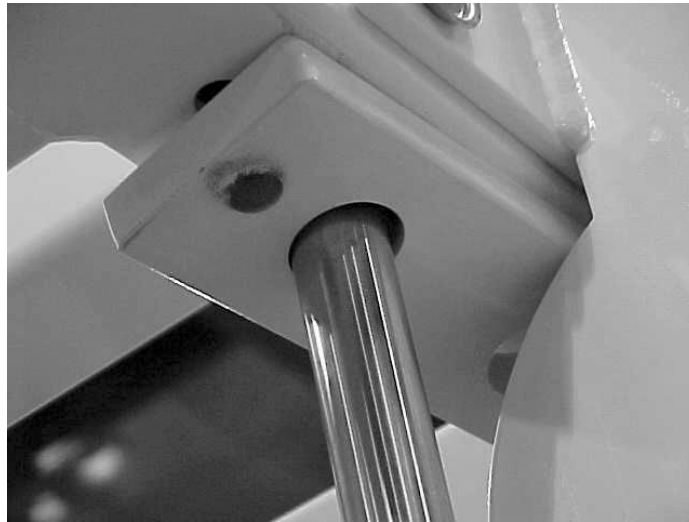

Figure 11. Bolt on the top plate.
- F. **Bolt on the top plate to the top of the cells** with the top plate on the guide rods as shown in Figure 11 using a 9/16" socket and combination wrench and the 3" (with cap washers) that were previously inserted.